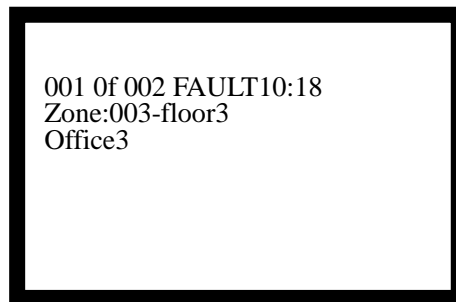

Fig. 5-5
- The LCD displays the fault message. The fault screen is as in Fig. 5-5 in zone display mode, and as in Fig. 5-6 in loop display mode.